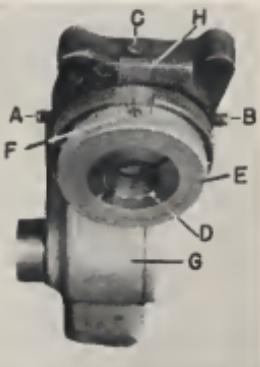
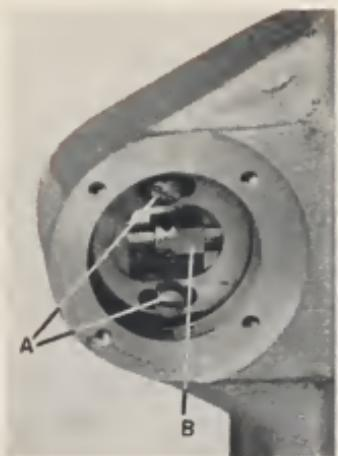

Fig. 6—Side trimmer adjustment assembly.
Fig. 15—Saw clamp shaft stroke adjustment.
thinner than either top or bottom. This condition is attained by caning the side cutter to assume a very small angle in relation to the side of the slug so that all trimming is done by the leading edge of the cutter. This adjustment should be necessary very rarely, such as after dismantling and replacing of the side trimmer assembly, and is accomplished by adjusting cap screws (A) and (B) Fig. 6. Examine the slug after trimming and determine from the curvature of the trimmer marks on the ribs whether the leading or trailing edge of the cutter is making the final cut. Turning out on screw (A) and in on screw (B) will cause the trailing edge of the cutter to project farther. Continue the adjustment a quarter turn at a time until marks of both leading and trailing edges can be seen on the same slug. Make sure that both screws (A) and (B) are set up snugly at this point, then turn screw (B) out one-quarter turn and turn screw (A) in the same amount to a firm seating. This will eliminate the marks from the trailing edge of the cutter and provide the optimum setting.
This adjustment is also rarely necessary but when required is accomplished as follows. Cast and trim five slugs. Measure them all together accurately top and bottom on all ribs, securing the average of all readings. If the bottom of five slugs together measures a total thickness from .0005 to .001 greater than the top, the adjustment is correct for optimum operation. Should the difference be more than this, or if the top of the slugs is thicker than the bottom, adjust top and bottom capstan screws (C) and (D) Fig. 6 to reach about this reading. Remember that the screws must be firmly seated, and that in changing them one screw must be turned out and then the opposite one turned in by a corresponding amount. Turning out on the upper screw (C) and in on the lower screw (D) will make the slug thinner at the top and thicker at the bottom, and vice versa.
The thickness of slug is correctly adjusted at the factory to slug casting machine standard of .014 in. to a point or .084 for 6 points, .168 for 12 points, etc., so that when the correct setting is obtained for any one size, all the other sizes indicated on the point setting ring will also be correct. If adjustment becomes necessary, as when changing cutters, it is easily accomplished by turning the knurled ring (E) Fig. 6. Turning this ring away from
In case a new cutter is installed, it will be necessary to reset the index ring as follows. Back the adjusting ring out counter-clockwise about a full turn and cast a slug. If no trim is shown, turn in a little at a time until the slug appears to be trimmed approximately correctly. Measure with micrometer and continue to adjust until the correct trim is obtained. Now loosen the set-screw, hold the core to prevent turning, and rotate the knurled aluminum ring until the set-screw is opposite the index mark (F) Fig. 6. Tighten set-screw and recheck.
SIDE CUTTER: To change the side trimming cutter, remove low slugger head and screws holding side cutter shield and remove shield after tripping latch (H) Fig. 6 at right-hand end of spindle to allow cutter to move to the right against the case. The point ring should be opened to 36-point position. Place a wrench on the flat of the saw shaft, and using a 30-pica slug and hammer tap against the teeth of the cutter in direction of normal rotation until loosened. With a long screwdriver remove the screw in center of the cutter. Work the cutter off its seat, turning the cutter and pushing it off a little at a time to avoid binding on the seat, which is a very close fit. Before replacing cutter clean seats thoroughly, making sure there are no particles of dirt which
The adjustment of the length of stroke of the saw clamp mechanism is enclosed in housing (G) Fig. 6. A detail view of this mechanism is shown in Fig. 15. To adjust, loosen the two screws (A) Fig. 15. With a pin inserted in holes, turn (B) counter-clockwise